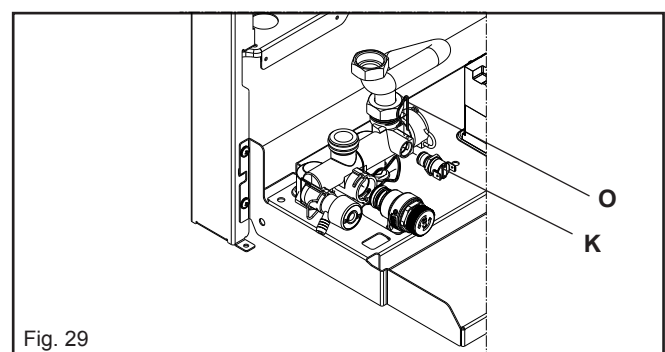

Fig. 29
6.7 WATER PRESSURE SWITCH (fig. 29)